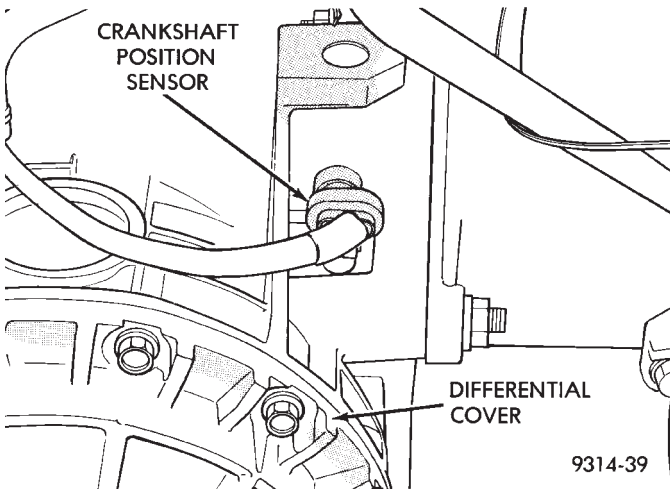

Fig. 50 Crankshaft Position Sensor
(19) Verify electrical connector is attached to the crankshaft position sensor (Fig. 50).